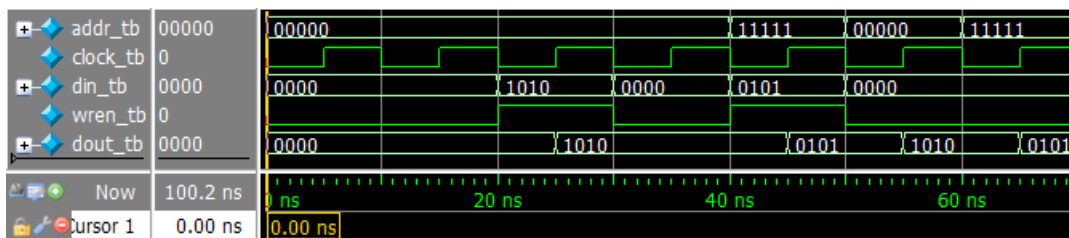

Figure 4: An example of simulation output.
4. Simulate the behavior of your circuit using Modelsim and ensure that you can read and write data in the memory. Use the included testbench file as a baseline for your simulation inputs. An example simulation output is given in Figure 4.